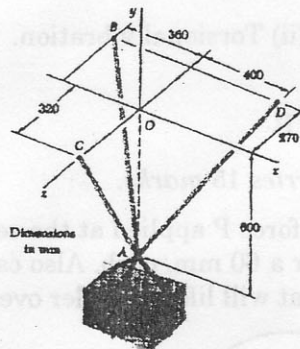

Figure 4
- (b) A 163 kg. crate is applied by three cables as shown in Fig. 4. Determine the tension in each cable.